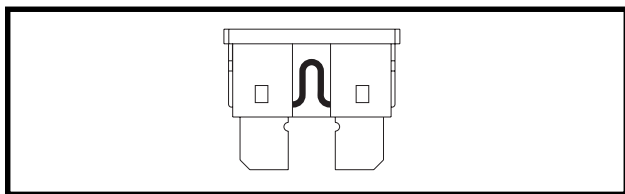

Figure 20. Working Fuse
- Examine the fuse to be sure it is blown. See figures 20 and 21.